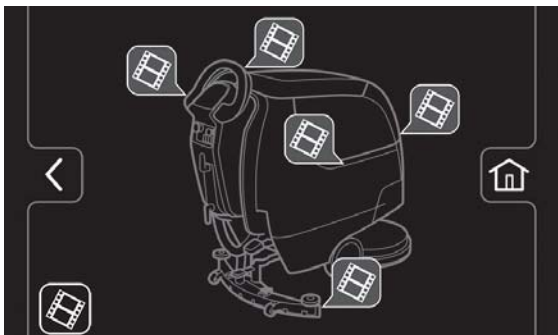

FIG. 58
-  Tutorials button - Includes videos on how to perform specific operation and maintenance procedures. Press the video icons to start videos (Figure 58).